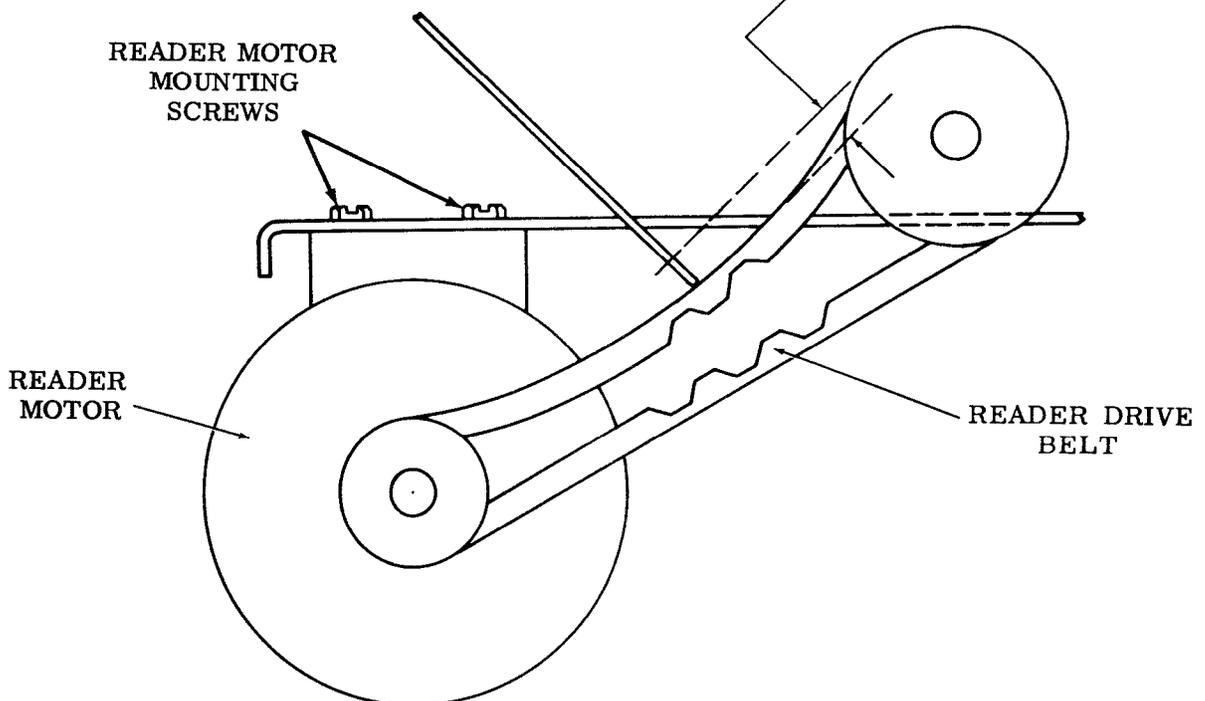

Figure 19 - Reader Drive Belt Tension
3.08 To replace the reader, reverse the removal procedure. Adjust the position of the reader motor to the left in the reader mounting bracket until a deflection of 3/8 to 5/8 inch is obtained when a 5-ounce force is applied to the center of the belt, then tighten the four reader motor mounting screws (Figure 19).
3.09 To remove the reader motor from the reader mounting bracket, proceed as follows (Figures 19 and 20).